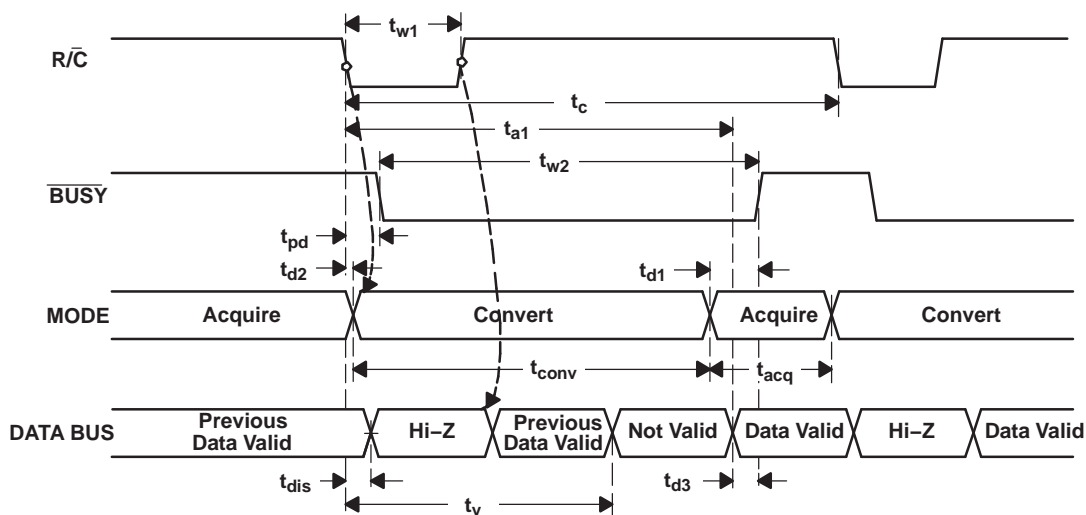
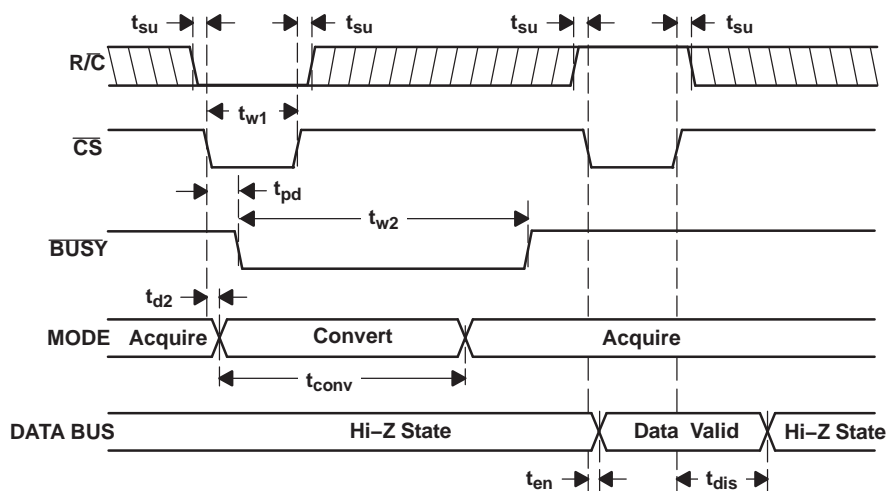
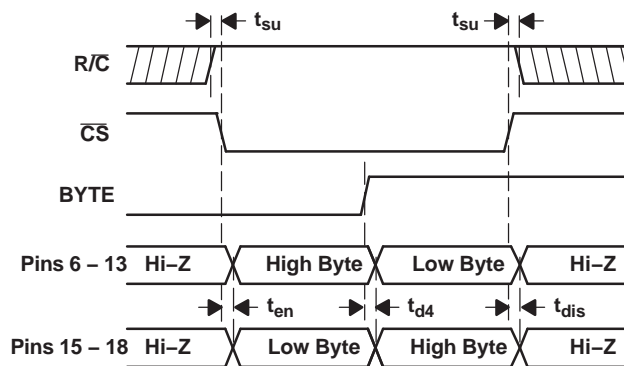

Figure 19. Conversion Timing with Outputs Enabled after Conversion (\overline{CS} Tied Low)
Figure 20. Using \overline{CS} to Control Conversion and Read Timing
Figure 21. Using \overline{CS} and \overline{BYTE} to Control Data Bus
The ADS8504 begins tracking the input signal at the end of the conversion. Allowing 4 μ s between convert commands assures accurate acquisition of a new signal. Refer to Table 1 for a summary of \overline{CS} , $\overline{R/\overline{C}}$, and \overline{BUSY} states and Figure 19, Figure 20, and Figure 21 for the timing diagrams.
(1) See Figure 19 and Figure 20 for constraints on data valid from conversion $n-1$.
After conversion n is completed and the output registers have been updated, $\overline{\text{BUSY}}$ (pin 26) goes high. Valid data from conversion n is available on D11-D0 (pins 6-13 and 15-18). $\overline{\text{BUSY}}$ going high can be used to latch the data. Refer to Table 3 and Figure 19, Figure 20, and Figure 21 for timing specifications.
After conversion n has been initiated, valid data from conversion $n-1$ can be read and is valid up to t_2 (2.2 μs typ) after the start of conversion n . Do not attempt to read data from t_2 (2.2 μs typ) after the start of conversion n until $\overline{\text{BUSY}}$ (pin 26) goes high; this may result in reading invalid data. Refer to Table 3 and Figure 19, Figure 20, and Figure 21 for timing specifications.
The number of control lines can be reduced by tying $\overline{\text{CS}}$ low while using the falling edge of $\text{R}/\overline{\text{C}}$ to initiate conversions and the rising edge of $\text{R}/\overline{\text{C}}$ to activate the output mode of the converter. See Figure 19.